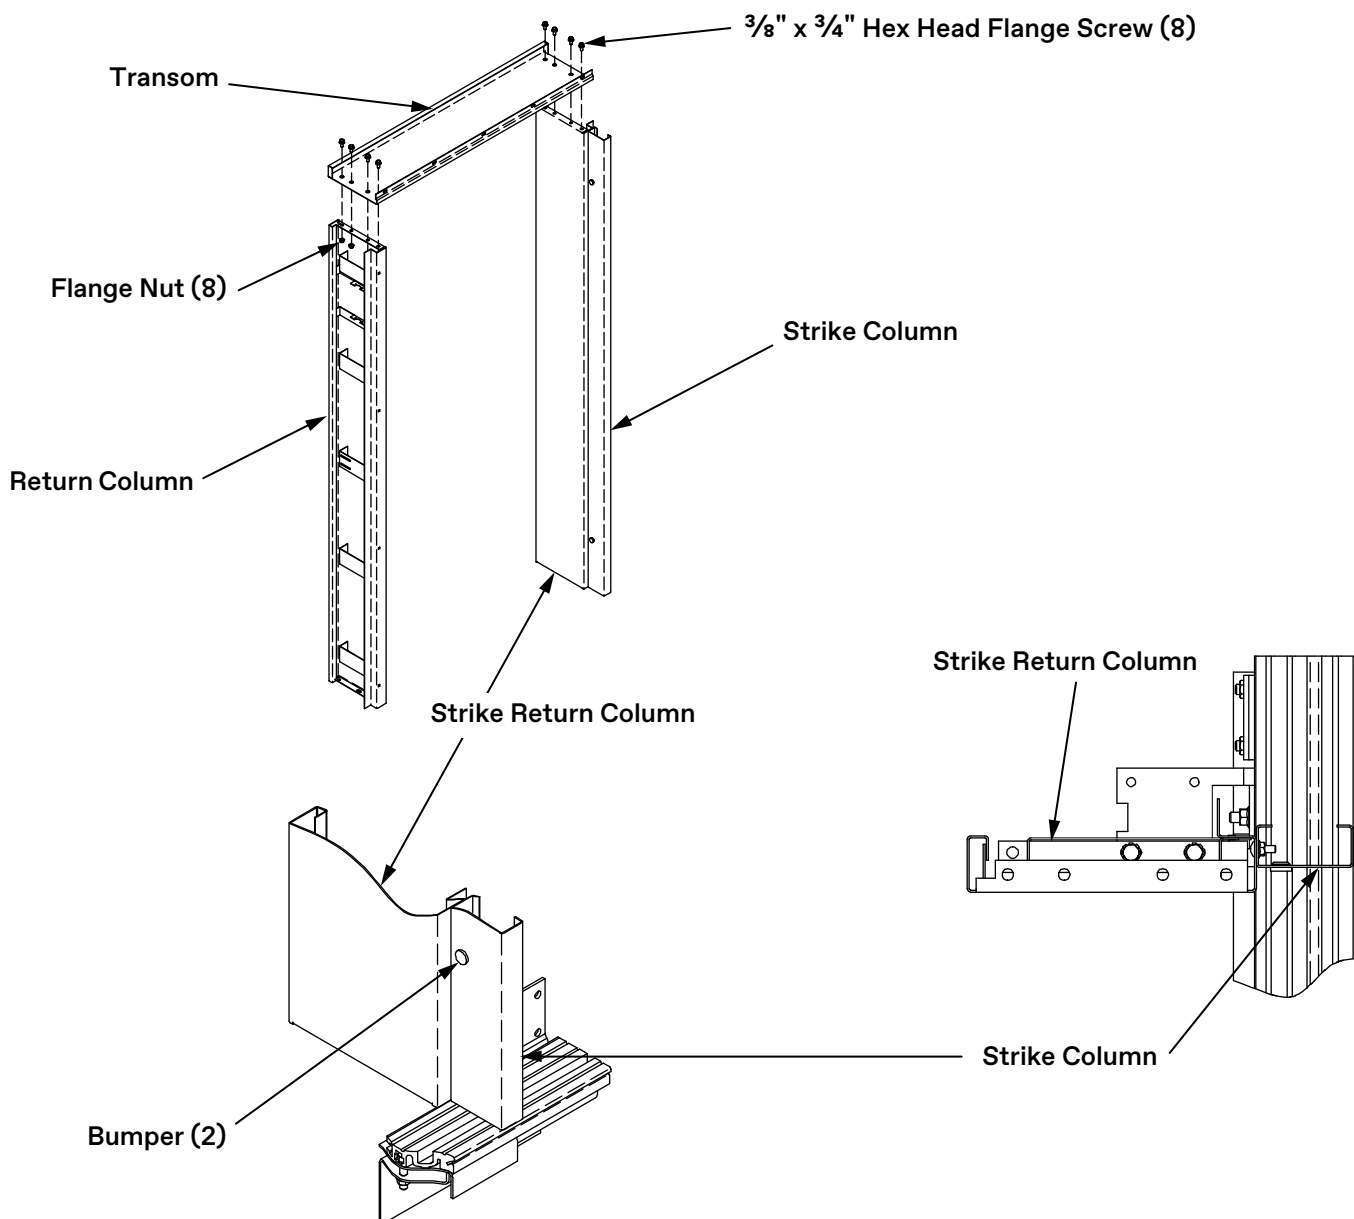

Figure 23 - Assemble Entrance Frames
2. At a landing, assemble the entrance frame face down on cardboard or carpet in front of the opening. See Figure 23.